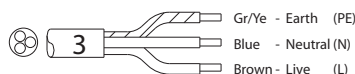

Fig. 7
- (fig. 7) 1 N~ 230V (3 core cable)